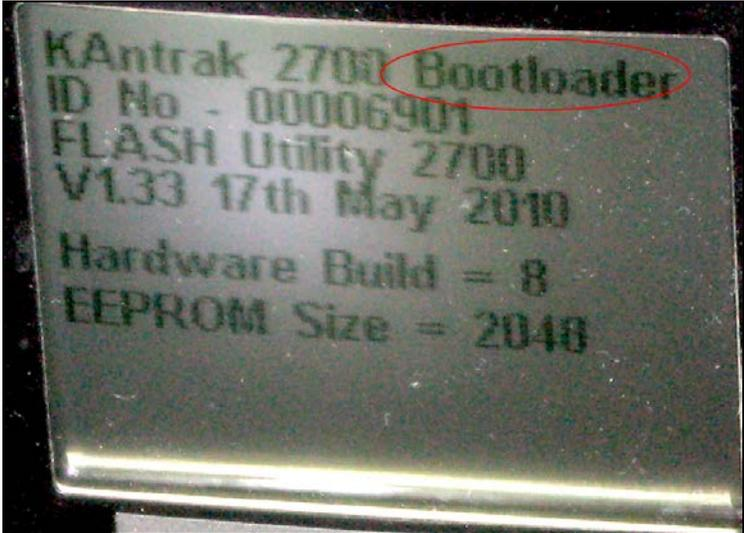

Fig.19
- 4. Release the two buttons, the boot loader screen will appear on the CANtrak unit and the HyperTerminal will shows the menu screen (Fig.19).